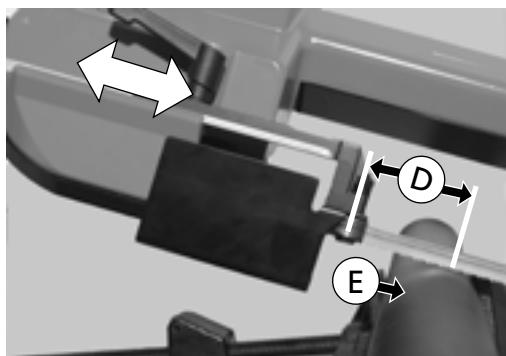

Fig. 24
2. Slide the guide assembly of the cutting blade (included within the white rectangle) in the direction of the arrows. The displacement must be made up until the fastening wheels of the cutting blade (B) are as close as possible to the piece to be cut (E), but without interfering with it. For this reason the marked distance should be heeded to (D) - (Fig. 24).